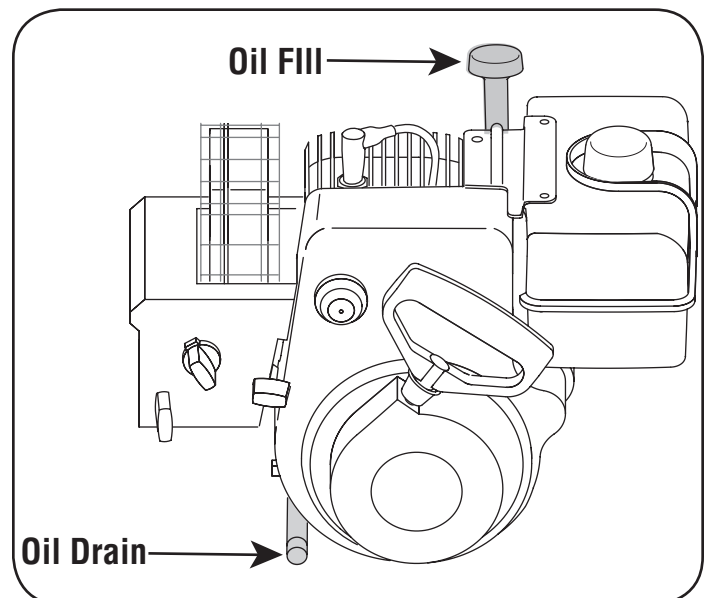

Figure 13
- Change oil after first two (2) operating hours and every 25 operating hours thereafter.
1. Locate the oil drain plug. See Figure 13.